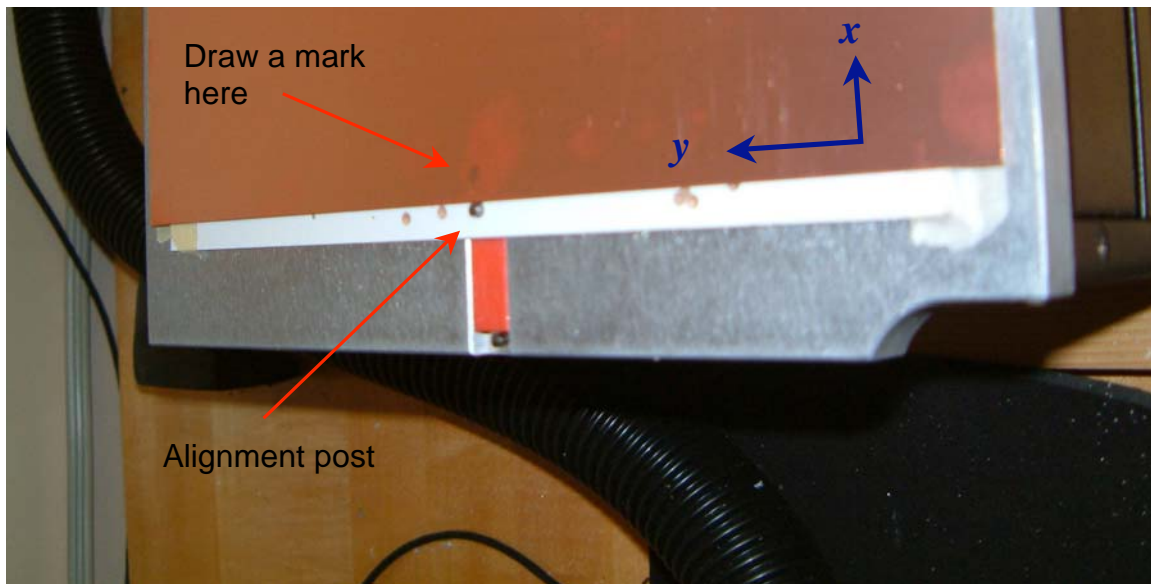
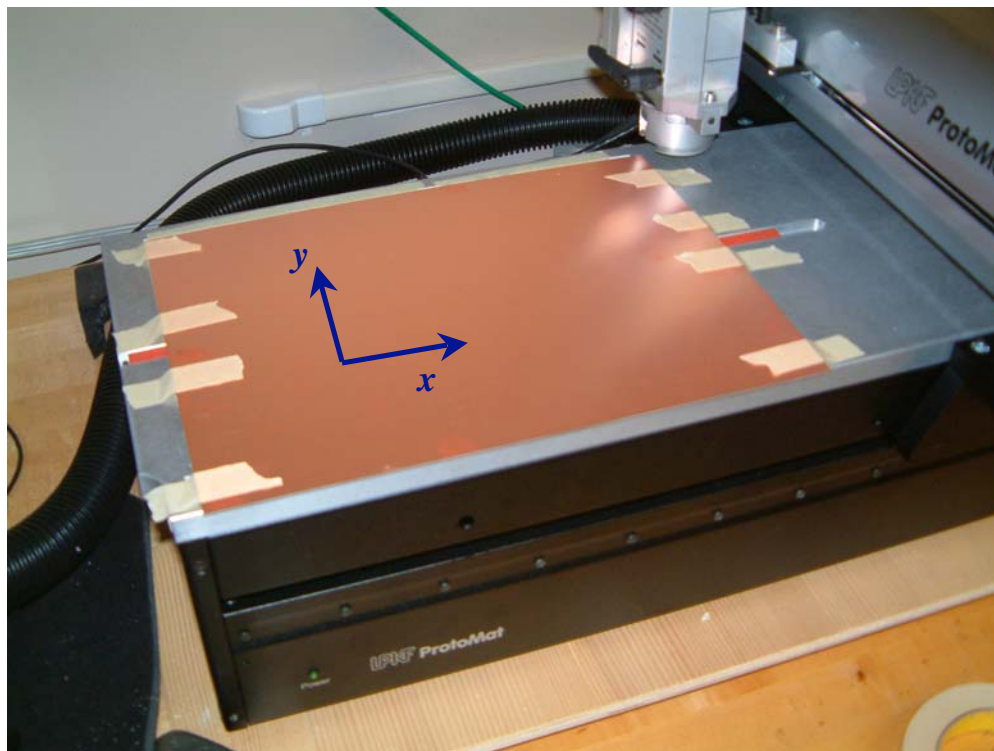

Figure 31: Position copper board beside alignment post and draw mark.
Figure 32: Position copper board to drill marking hole. The marked dot must be offset from the alignment post.
4. Using a pencil, draw a dot on the left edge of the copper board (see Figure 31) and tape the board such that the dot is offset from the alignment stubs by ~ 10mm as shown in Figure 32.